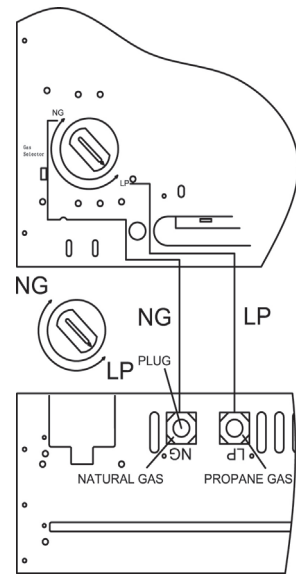

Figure 16
2. For propane gas, press in knob using a flat screwdriver with a blade the thickness of a quarter and turn knob clockwise  until the knob locks into the LP position, see Figure 16. Fuel selection device must be locked in the LP position. Do not operate heater between locked positions.